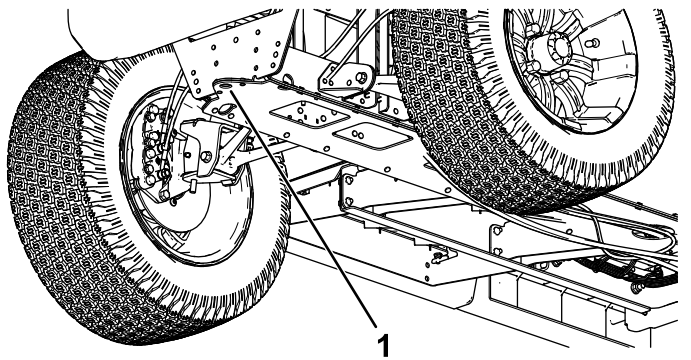

Figure 27
- The lifting point at the front of the machine is located at the front of the frame, behind the towing tongue (Figure 27).